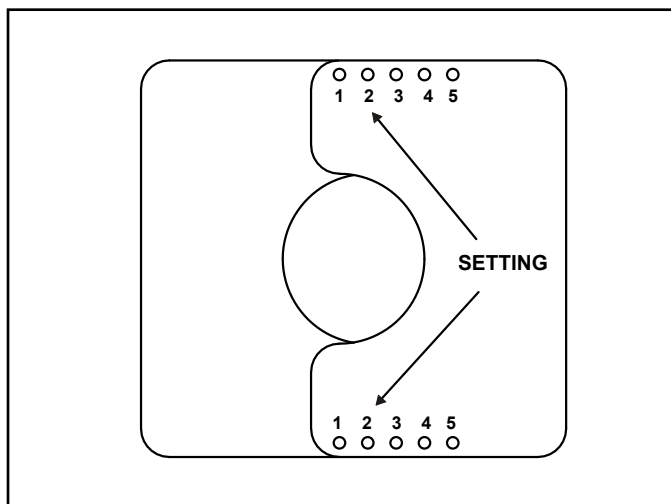

Figure 4.17 Set the Exhaust Restrictor
3. The setting for ECHEL36IN-C, ECHEL48IN-C, ECHEL60IN-C and ECHEL72IN-C is a 2.5 inch setting, or 2-2. Align the holes marked "2" on the numbered exhaust restrictor piece with the hole on the other exhaust restrictor piece. See Figure 4.17. Align the exhaust restrictor pieces with the pilot holes in the inner firebox chamber. Use two 1/2 inch self-piercing screws to secure vent restrictor to firebox heat shield.
2. The setting for ECHEL36STIN-C and the ECHEL48STIN-C is a 2.5 inch setting, or 2-2. Align the holes marked "2" on the numbered exhaust restrictor piece with the hole on the other exhaust restrictor piece. See Figure 4.17. Center the exhaust restrictor on the vent and secure in place with two 1/2 inch self-piercing screws.